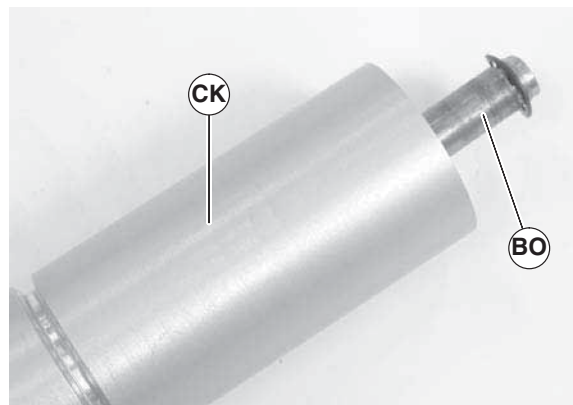

Figure 77
1. Remove screws (Figure 77, item AK) and remove lower knuckle return roller assembly (AL) on both sides of knuckle, note the position of the meshing teeth.